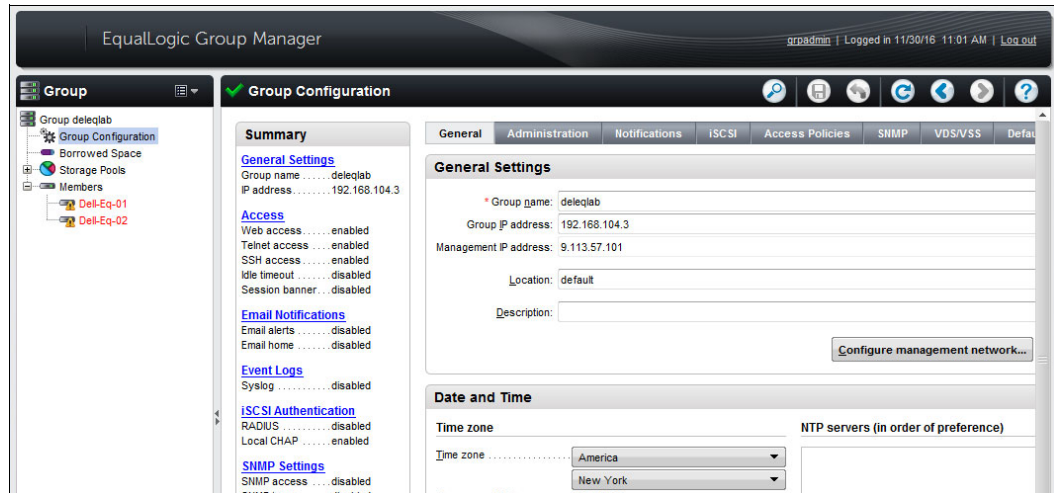

Figure 14-2 Dell Equallogic PS Series Group IP configuration
2. Select **Group Configuration** → **General**. Specify the IP address and the netmask, as shown in Figure 14-2.